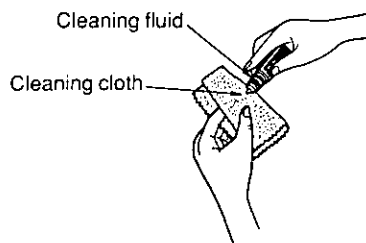

Fig. 4
- (1) Pour some drops of the cleaning fluid onto the cleaning cloth. (Fig. 4)